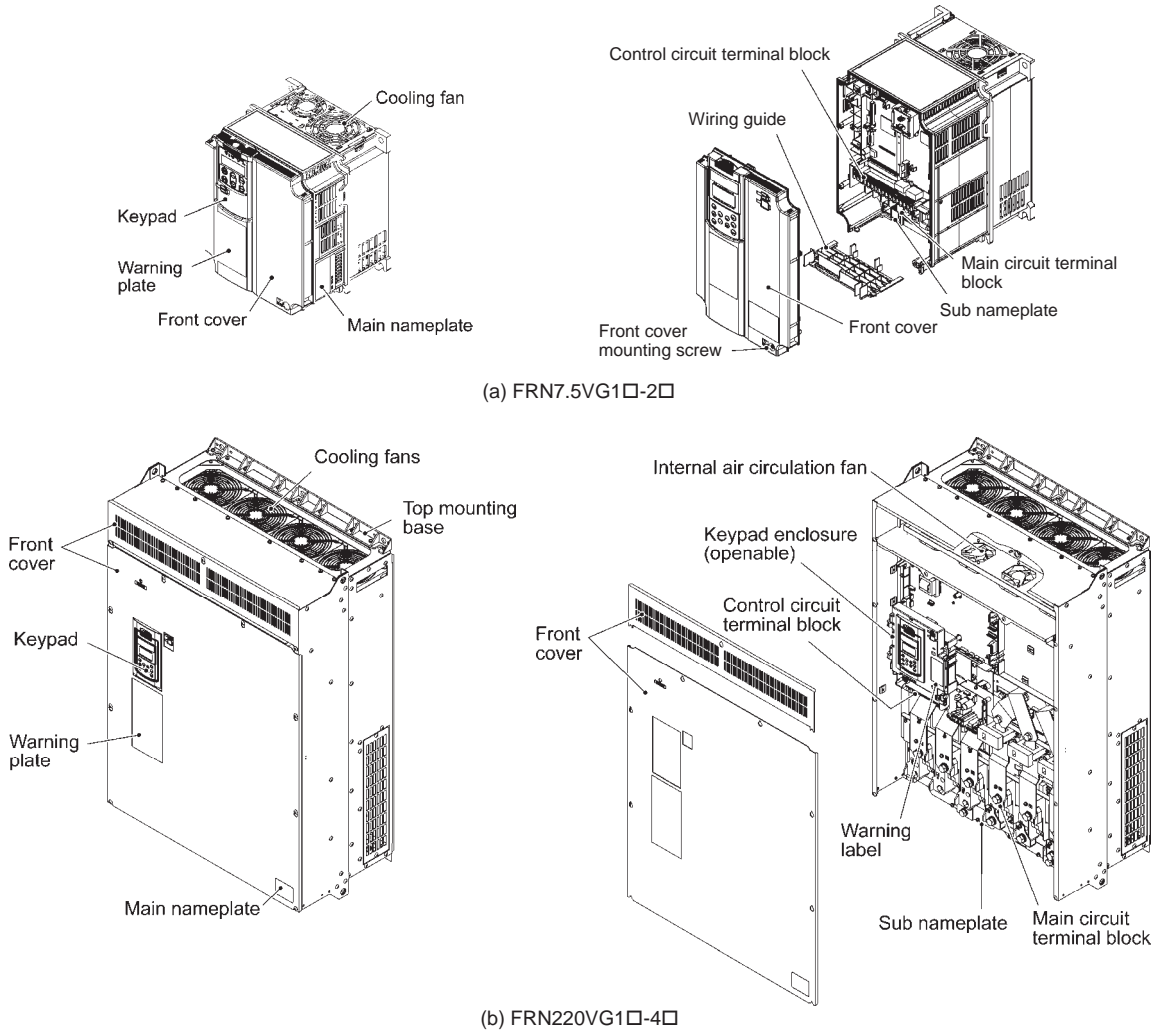

Figure 1.2-1 Outside and Inside Views of Inverters
- (1) An inverter and the following accessories are contained.
- (2) The inverter has not been damaged during transportation—there should be no dents or parts missing.
- (3) The inverter is the type you ordered. You can check the type and specifications on the main and sub nameplates. (The main and sub nameplates are attached to the inverter as shown in Figure 1.2-1.) For inverters of 30 kW or above, the mass is printed on the main nameplate.